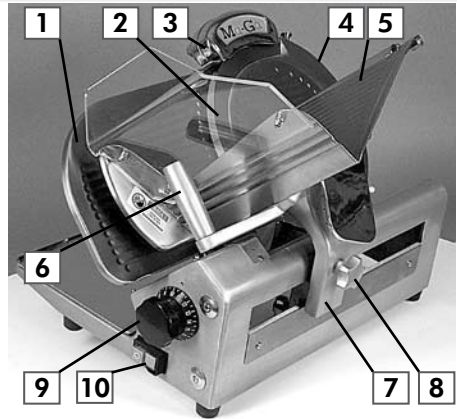

Fig. 1 General view
The slicer is made from stainless steel, except the product table guides and the shaft of the blade bearing. Individual parts of the slicer are smooth and easy to clean. The blade of the slicer is driven by the electric motor through the worm gear. Switching an electric drive on is possible after setting a required slice thickness and after switching into position ON (Fig. 1, pos.10). After switching a drive on, the white indicator light lights-up (Fig. 2, pos. 8).
- 5) **Make any manipulations with hands in a cutting zone. Handy operations during cutting should be limited to the table shifting by means of the table hand (Fig. 1, pos. 6).**